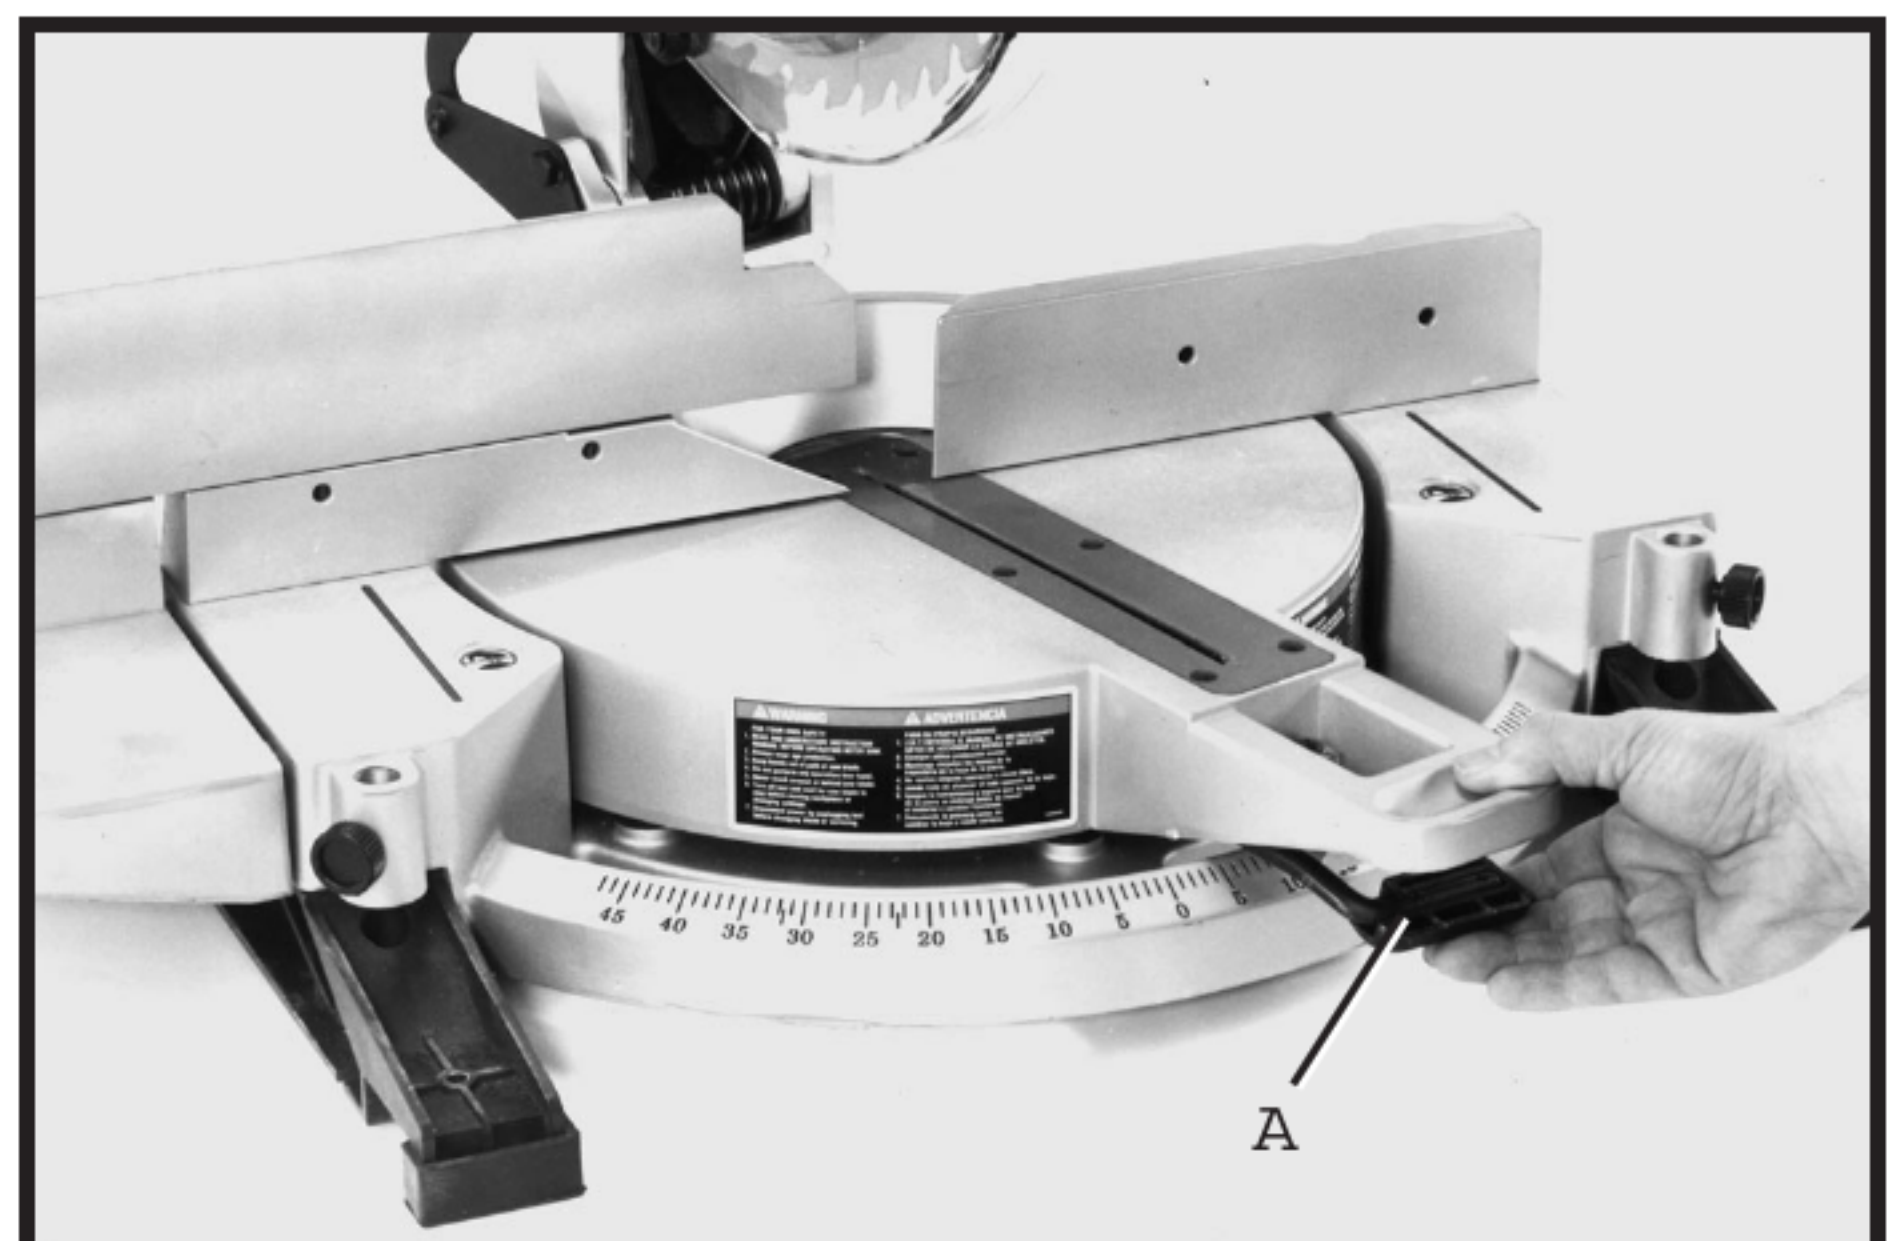

Fig. 17
1. Your compound miter saw will cut any angle from a straight 90 degree cut to 47 degrees right and left. Simply depress table lock lever (A) Fig. 17, and rotate the table to the desired angle. Then release table lock lever (A).
2. **IMPORTANT:** Table lock lever (A) Fig. 17, must be depressed when rotating the table. When lock lever (A) is not depressed, the table is in the locked position.